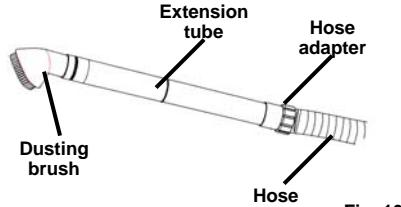
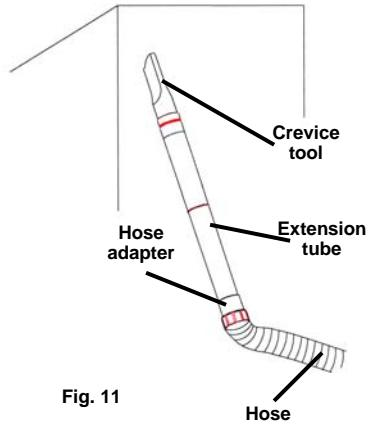

Fig. 10
Fig. 11
- Attach the crevice tool or the dusting brush to the end of the extension tube. (Fig. 10, Fig. 11)